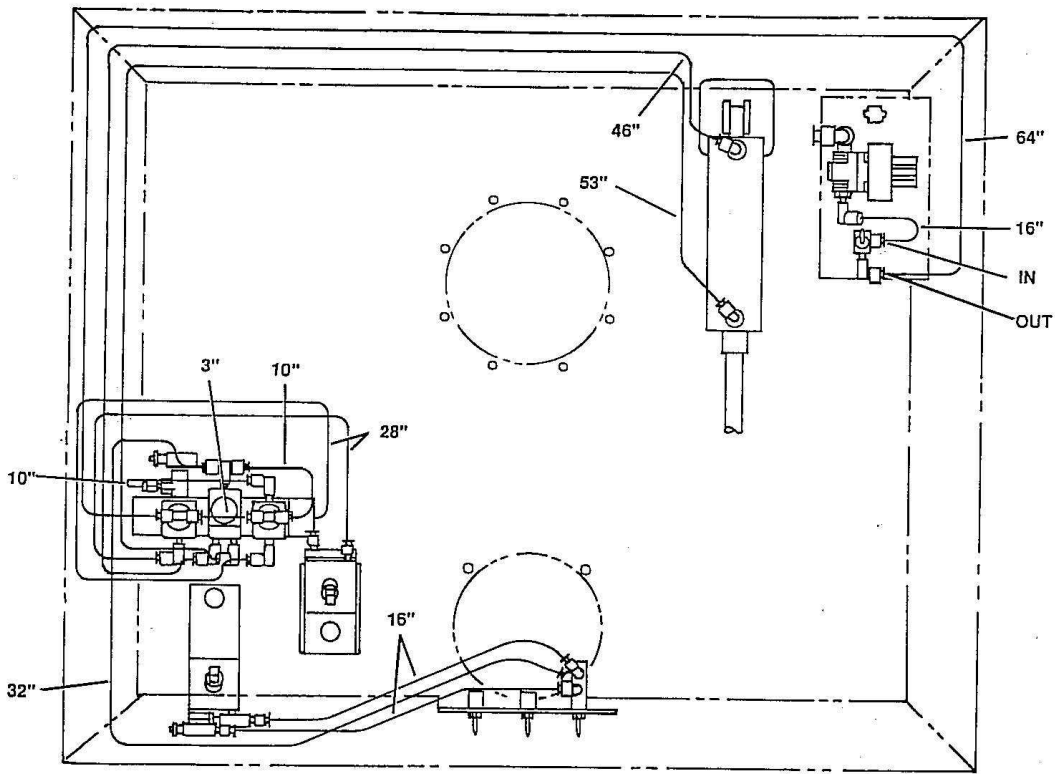

Figure 2-15. Air Lines.
(1) Cut air line (85) to desired length.
(2) Route air line inside roof turret mounting plate as indicated in Figure 2-15.
(3) Connect air line to adapter fittings by de-pressing red collar on adapter fittings and inserting air line into adapter fitting. Release red collar.
(4) Bundle air lines with cable ties as required.
(5) install false ceiling (paragraph 2-16).